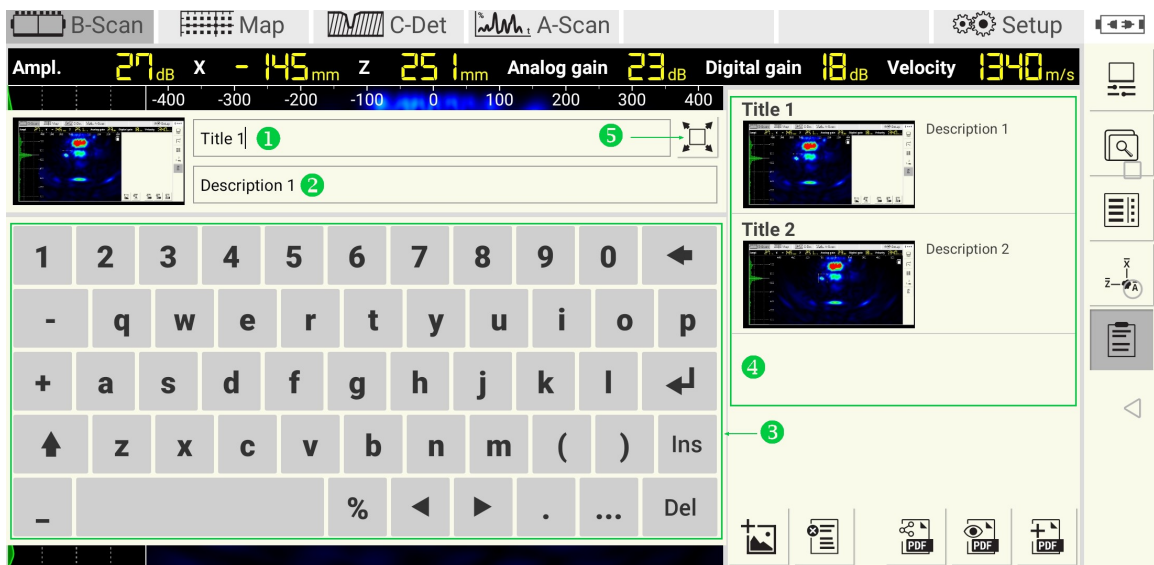

Figure 17: Screenshot editing
The operator may edit the title and the description of the screenshot at any time. The editing dialog has fields ❶ and ❷ for that. Use the keyboard ❸ for typing, Figure 17